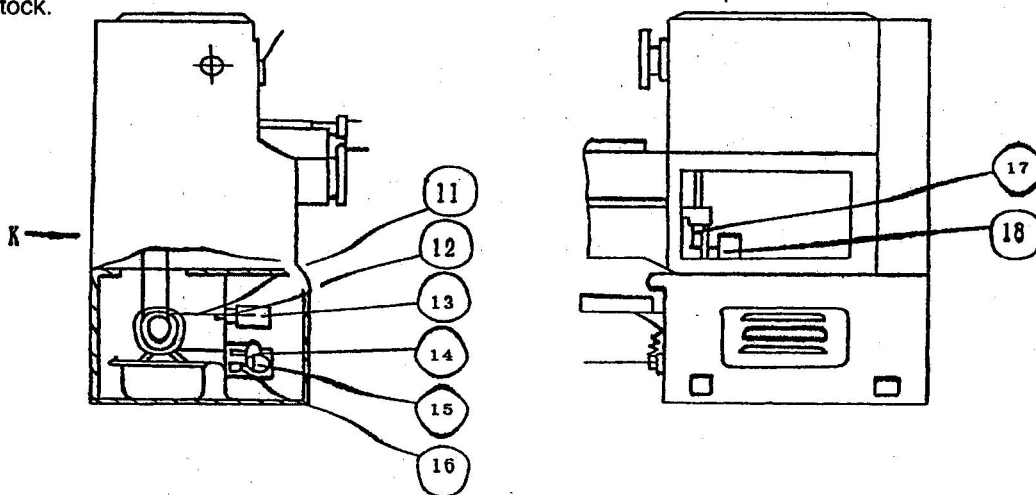

Fig.14-1 Structure of foot brake
Fig.14-1 shows the structure of the foot brake. It consists of pedal, connection rod, support, seat, cam, strain arm, pulley, steel band, braking assembly and electrical unit. As soon as the pedal (7) is trodden, cam (15) will disconnect the over-travel limit switch (16) with the help of strain arm (14), cut off the power to main motor. The motor is thus stopped under the combined action of strain arm (14) and steel band (11).
The main motor of machine can't be started unless the starting lever is set to NEUTRAL position. See Fig.14-1.